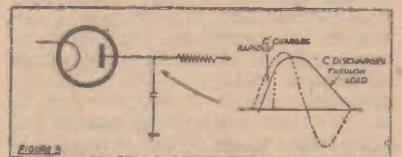

Fig. 3.—The waveform obtainable from the first filter condenser in the power supply.
rotating counterclockwise, and OA is the carrier. It will be recognized as being similar to the upper side band shown in Fig. 3 (A) or (B), but now it cannot be paired with a corresponding lower side band, because the noise components are entirely random in phase. Hence its resultant with OA must be studied separately from the resultants of other noise components with OA.
This ripple, which is really the AC component of the voltage upon the condenser is shown in Figure 3, and has a waveform of the desired shape. This is due to the fact that, while the rectifier is charging, the condenser is charging through a relatively low impedance, whereas during the non-conduction period of the rectifier the condenser is discharging at what is really an exponential rate, but, owing to the brief space of time involved, is for our purposes, sufficiently linear.